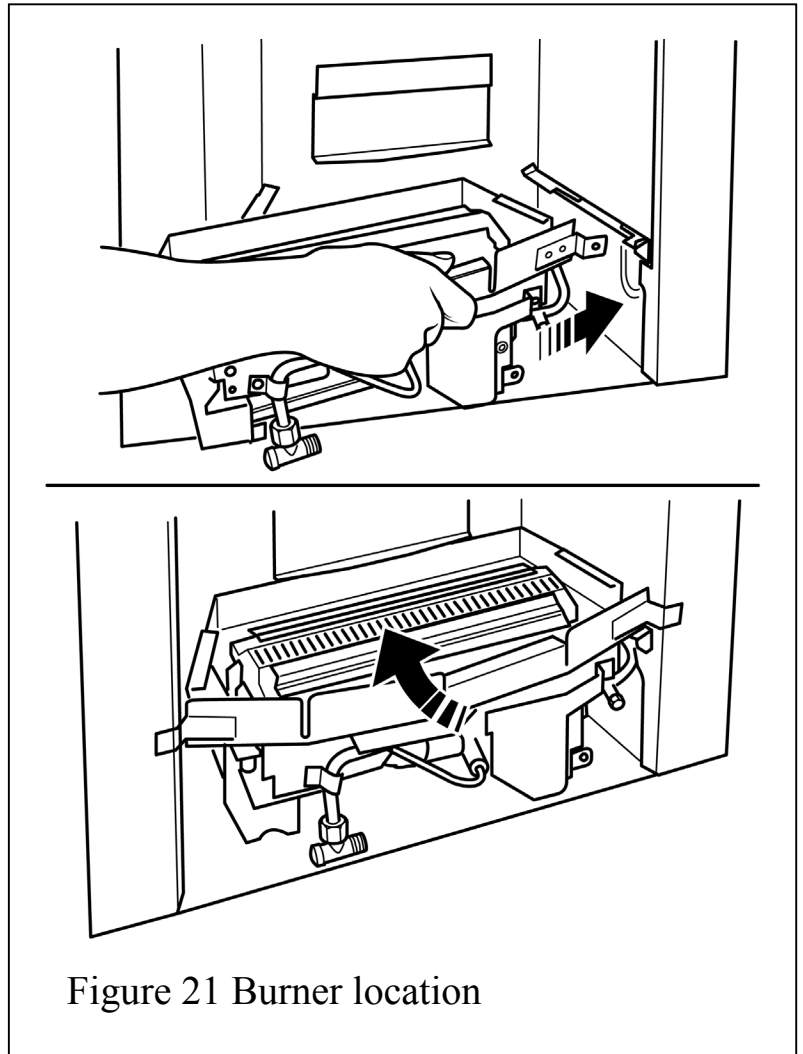

Figure 21 Burner location
- Refit the burner unit to the appliance. When locating the burner unit the right side of the burner must be located first. The convector box has a recess in it for the right hand pipe to sit in (See figure 21). Secure using the two screws removed previously.